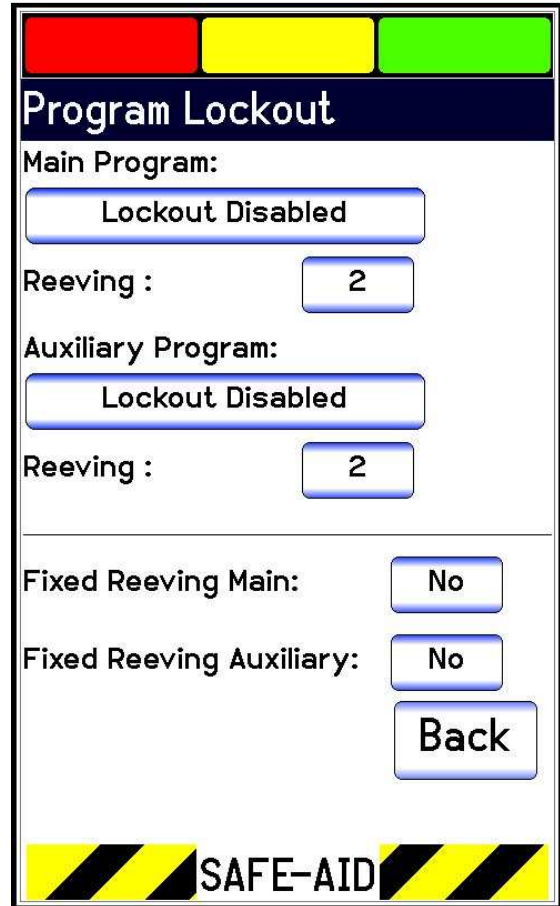

Figure 25
2. Enter the four digit password [ - - - - ] followed by the **Enter** button, the Program Lockout screen will be displayed (figure 25).
4.  Select **No** - the screen will to return back to the Program Lockout screen and **Lockout Disabled** will be displayed in the selected button (figure 25). Repeat this for main and auxiliary programs if all programs are to have access.
2. Enter the four digit password [ - - - ] followed by the **Enter** button, the Program Lockout screen will be displayed (figure 25).